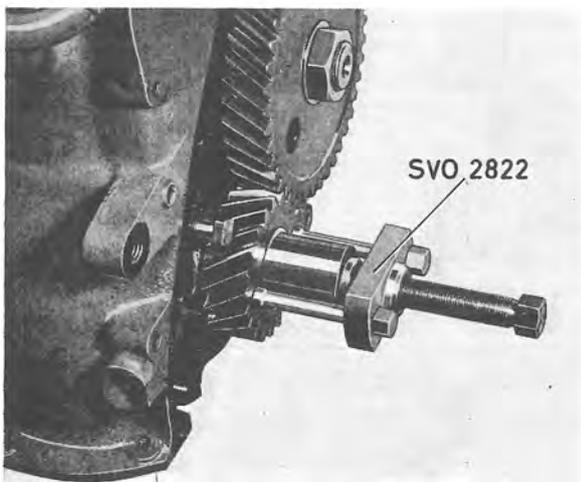

Fig. 2-35. Removing crankshaft gear
5. Pull off the crankshaft gear with puller SVO 2822, see Fig. 2-35.